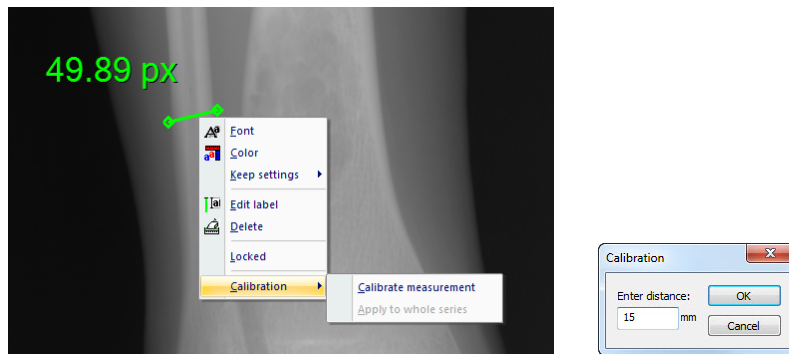

Figure 149 – Calibration context menu and Calibration dialog
Select **Calibration** item (see Figure 149) in the **Annotations** context menu to activate calibration. The context menu will be displayed when pressing mouse context button at the Distance measurement.
- **Calibrate measurement** - open the **Calibration** dialog to define the calibration (see Figure 149).